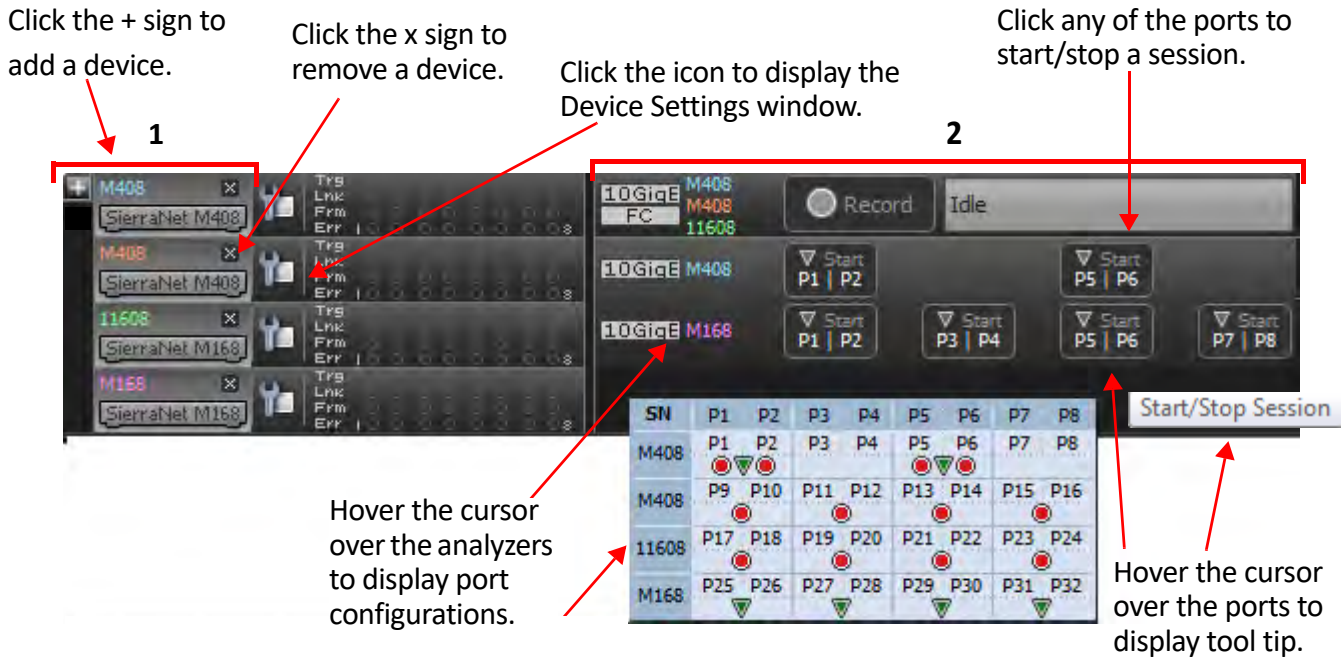

Figure 4.3: Device Pane Displaying Multiple Devices
The Device pane allows you to add or remove a device in the chain of attached devices and assign each device to a different project (Figure 4.3). First, add a device before activating it:
2. Connect and add the M1288 probe to the Net Protocol Suite software (see Figure 4.3 for more information). The Add Device to Project window displays (Figure 4.8).